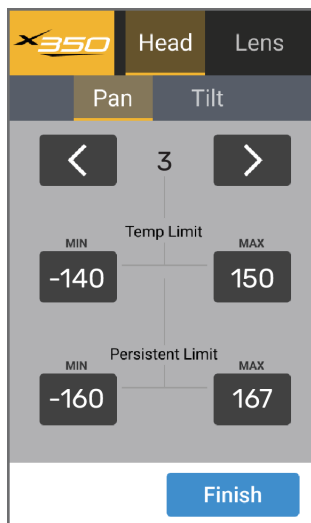

Figure 44 - Controls for the Pan Axis
1. Operate the axis for which you want to set a limit, moving it to the position you want to record as the limit. **Figure 44** shows controls for the **Pan** axis.